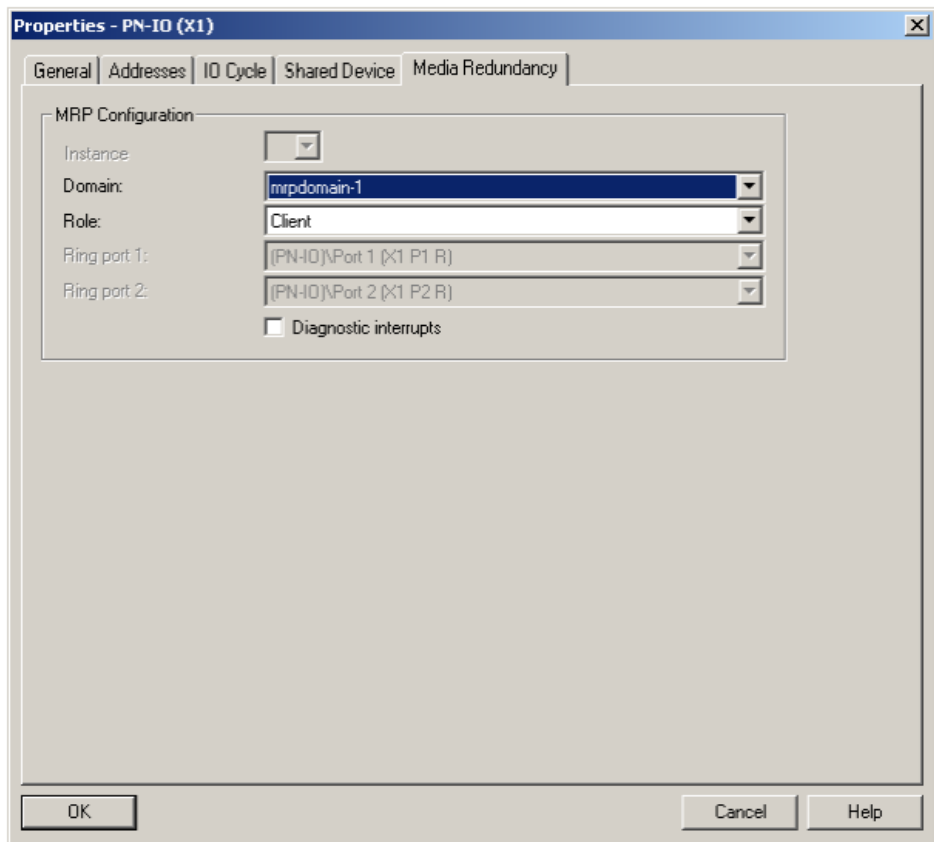

Figure 2-9 Dialog box: Properties - PN-IO (X1); Media Redundancy tab
- In the “Media Redundancy” tab, select the value “Client” under “Role”, see Figure 2-9.